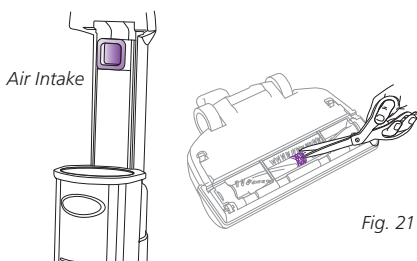

Fig. 20
- 2 Check Air Duct behind Dust Cup for clogs; clear before replacing Dust Cup Assembly. (Fig. 20)